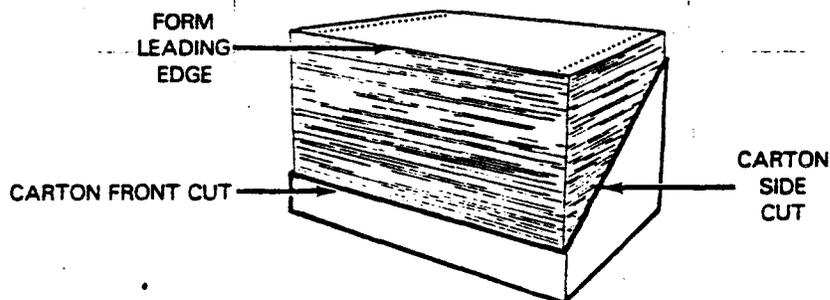

Figure 4-6. Forms Container Prepared for Printer Operation (Standard Box)
13. Prepare the standard cardboard forms container (Figure 4-6) for efficient paper feed as follows: